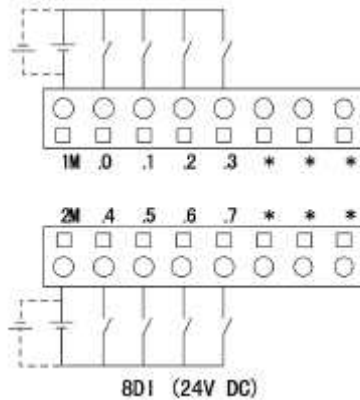

Figure 3-1-1 LM3210 Terminal Wiring Diagram
- 1M and 2M terminals of DI channel in Figure 3-1-1 indicate external DI common terminals, user can choose to connect terminal M to the positive end or negative end of 24VDC sensor power source in order to adapt to source/sink type DI.